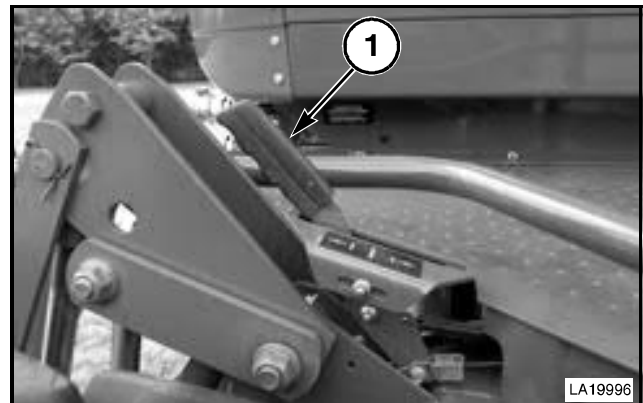

FIG. 28
FIG. 28: To disengage the cylinder stops, raise the header completely. Move the lever (1) toward the cab and then push forward toward the header to disengage the cylinder stops. Make sure the cylinder stops are completely disengaged from both header lift cylinders.